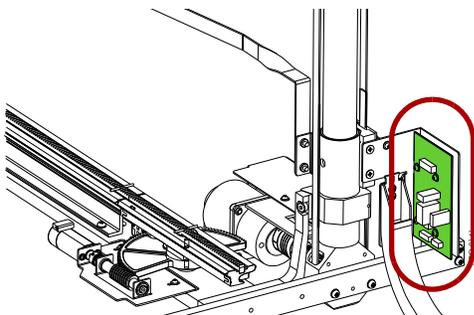

Figure 4. Rotary SPI Board Location (Rear View)
1. At the rear of the library, locate the **Rotary SPI board** (Figure 4).